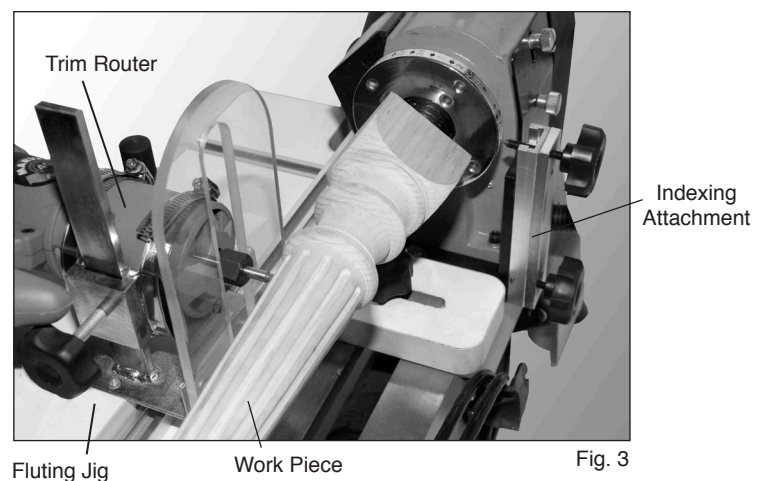

Fig. 3
- For cutting indexed flutes - requires a fluting jig - PSI #LIXGA or similar (See Fig. 3).
Optional accessory - use the PSI Fluting jig #LIXGA as shown below (Fig 3) for fluting spindles.